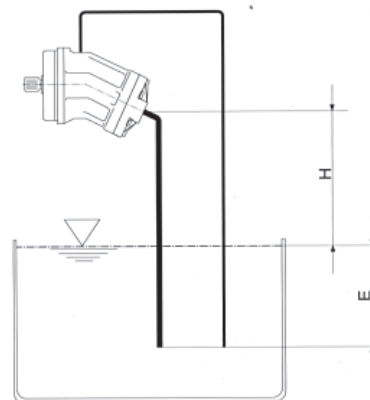

Fig. 15:
For installation positions ① and ② the recommended minimum immersion level »E« must be maintained. This dimension applies to suction, leakage and bleed lines, see fig. 15.